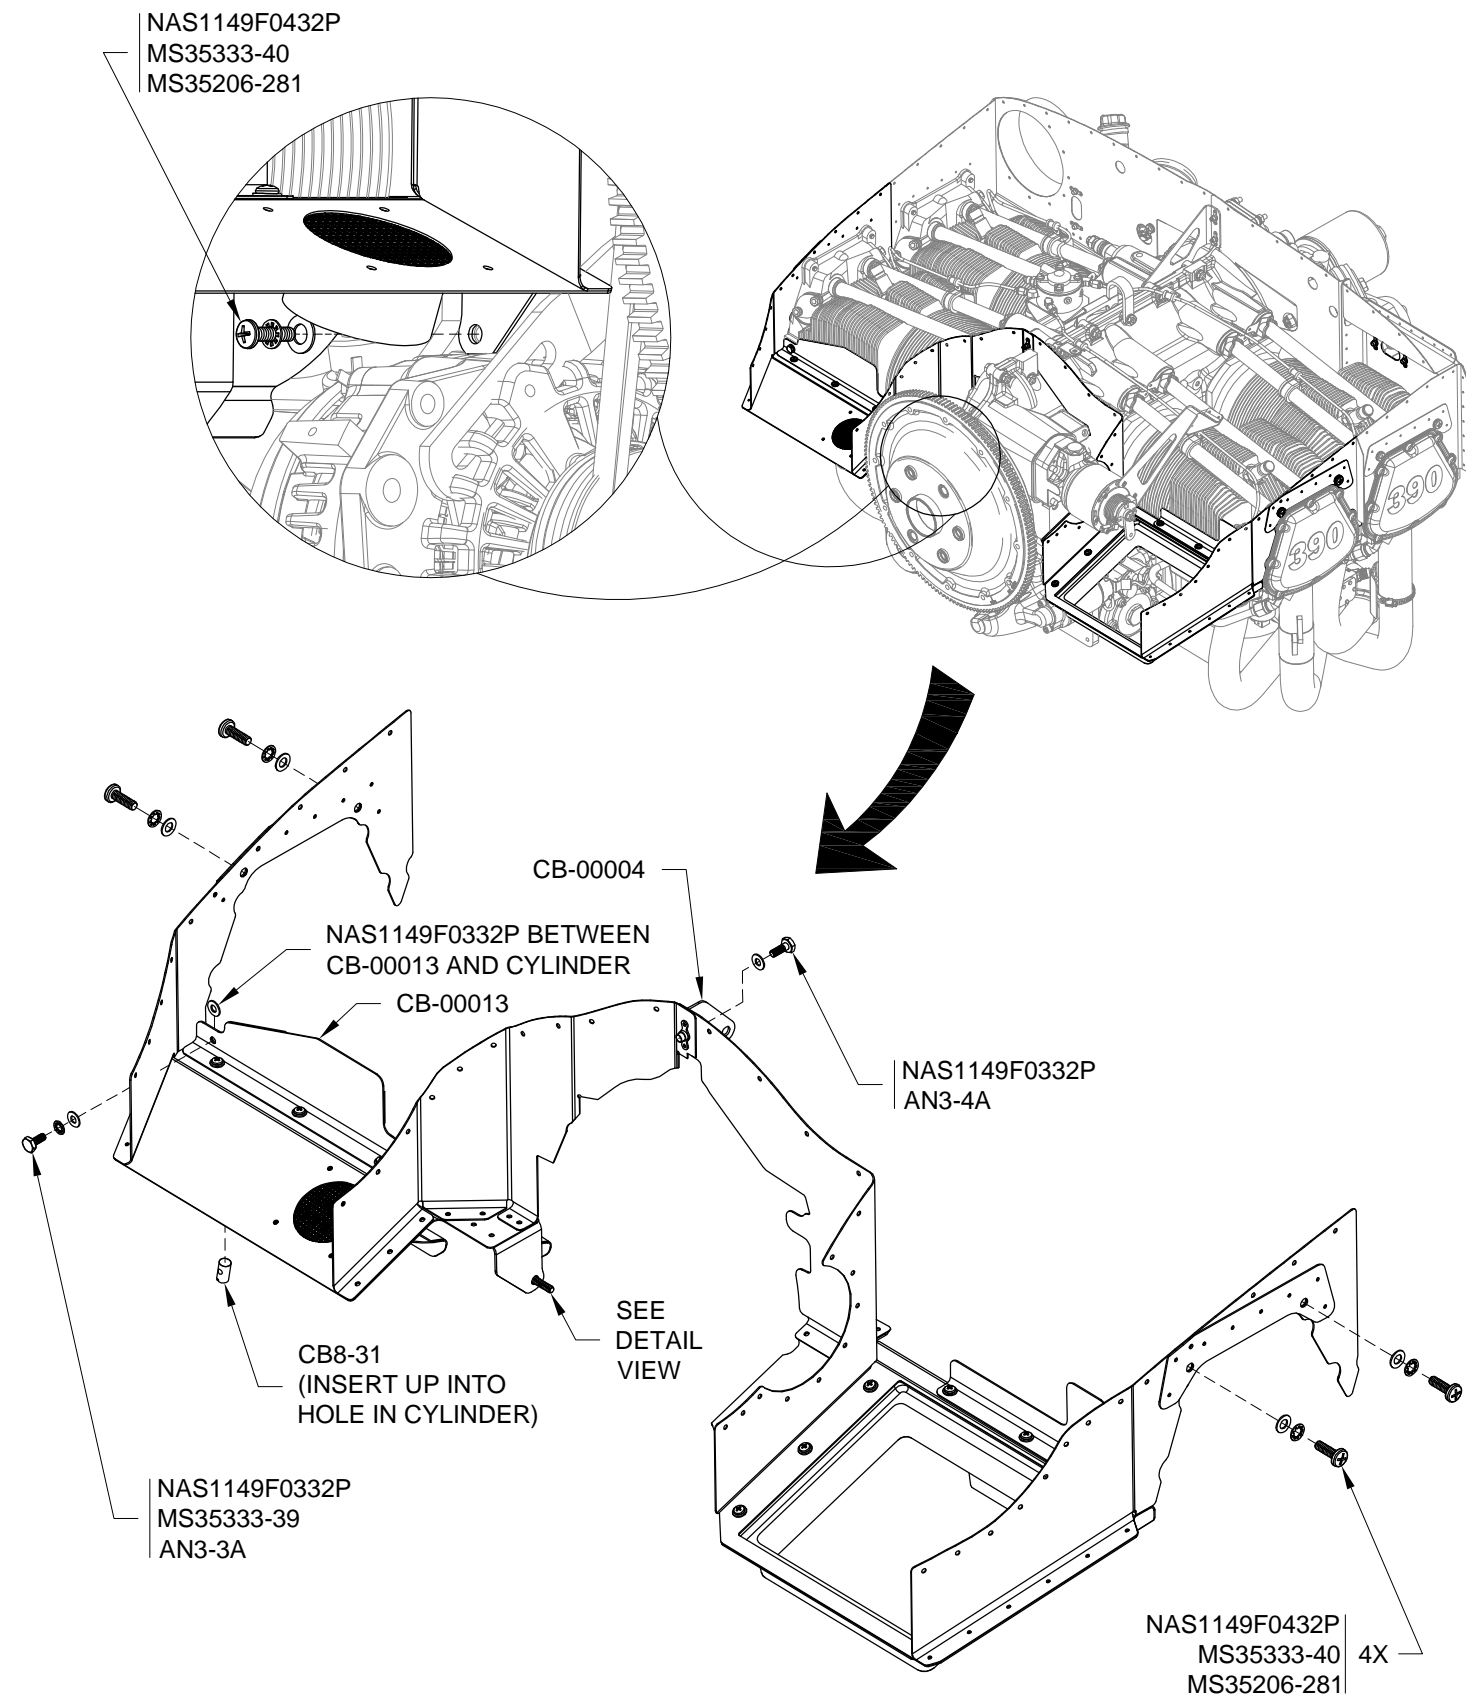

FIGURE 1: ATTACH FORWARD BAFFLES
Step 2: Fully tighten the hardware attaching the CB-00004 Fwd Center Bracket to the engine. See Figure 1.